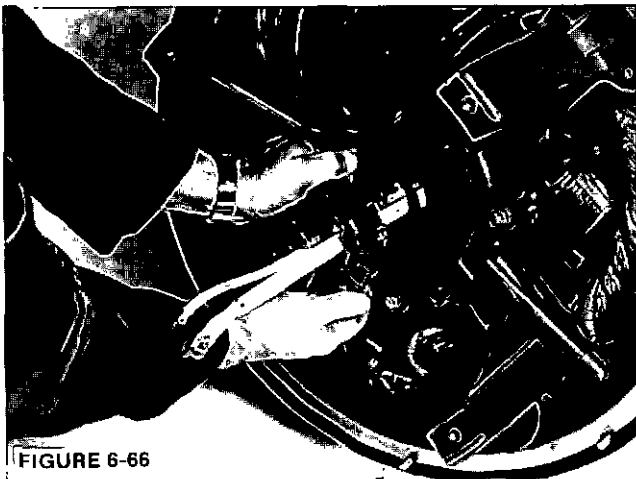

FIGURE 6-66
- Slide PMG rotor onto shaft. (Figure 6-66.)